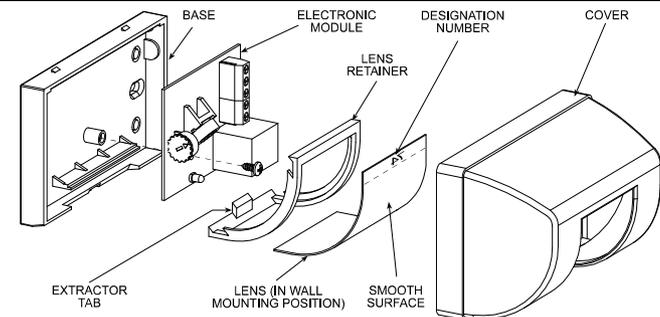

Figure 9. DA-5 Exploded View
The lens is held in place by a flexible plastic retainer. The lens number (74) is engraved on the inner grooved surface of the lens near the top rim (see Figure 9).